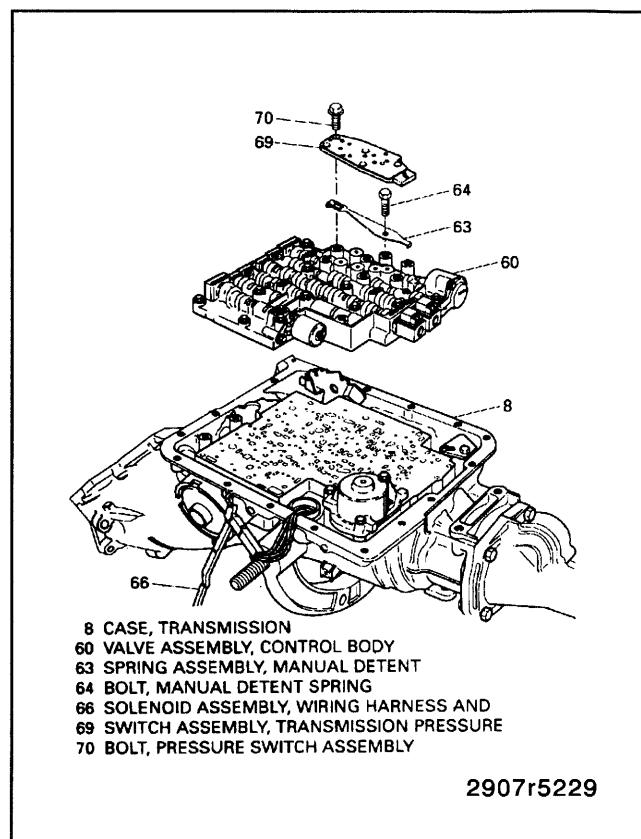

Figure 13—Control Valve and Pressure Switch Assembly
6. Spring (54).
7. Bolt (64) and manual detent spring assembly (63) (figure 13).
12. Control valve assembly (60) (figure 13).